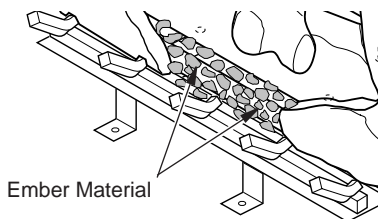

Figure 45 - Placing Ember Material on Burner
8. Pull ember material apart into pieces no larger than a dime. Place these pieces loosely and sparingly directly onto exposed section of front burner and along space between burner and grate prongs (see Figure 45). This will create glowing ember appearance as flame touches ember material. Do not block air slots by using too much ember material in one area. It is not necessary to use all of ember material provided.